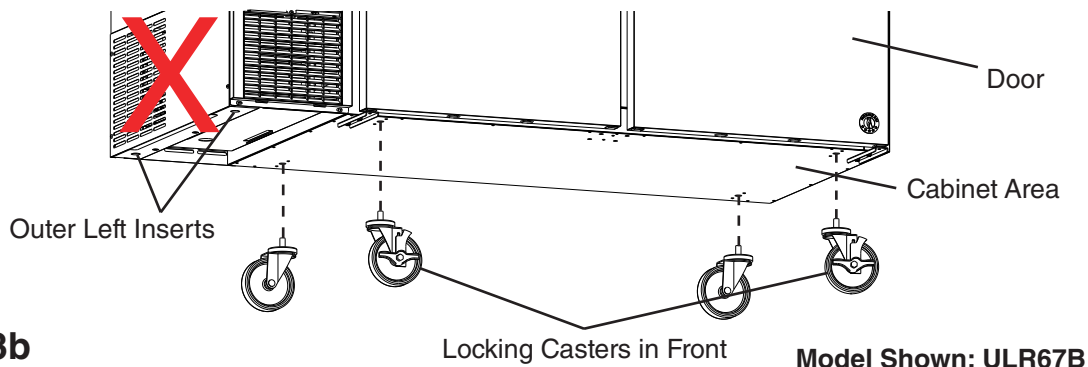

Fig. 3b
- b) **XLX60B(-DX) and XLX67B(-DX):** Attach the 4 casters under the cabinet area. See Fig. 3b. **WARNING! Do not attach the casters under the compressor area in the outer left inserts.** **NOTICE! Ensure casters are completely threaded into appliance and tight.**